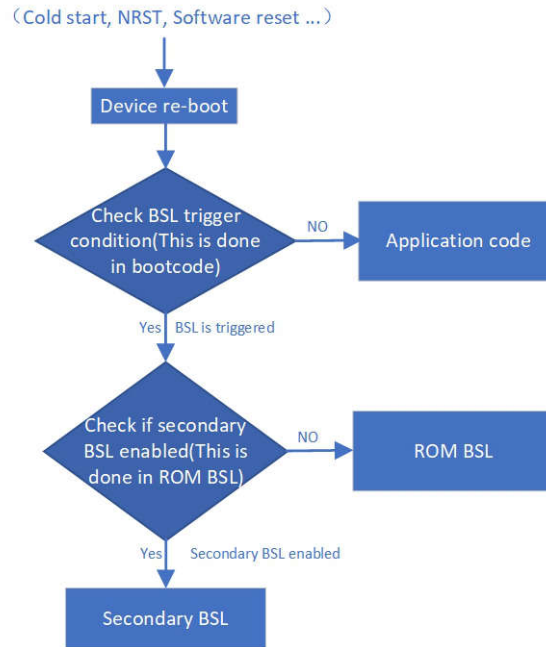

Figure 1-7. Secondary BSL Execute Flow
- For the secondary BSL start from 0x1000, you can put it anywhere in the flash except 0x0. Because the application code must start from the 0x0 address. The demo reused the ROM-based BSL's trigger resources. (Both hardware, software and blank device detection). Figure 1-7 shows the secondary BSL demo executed flow.